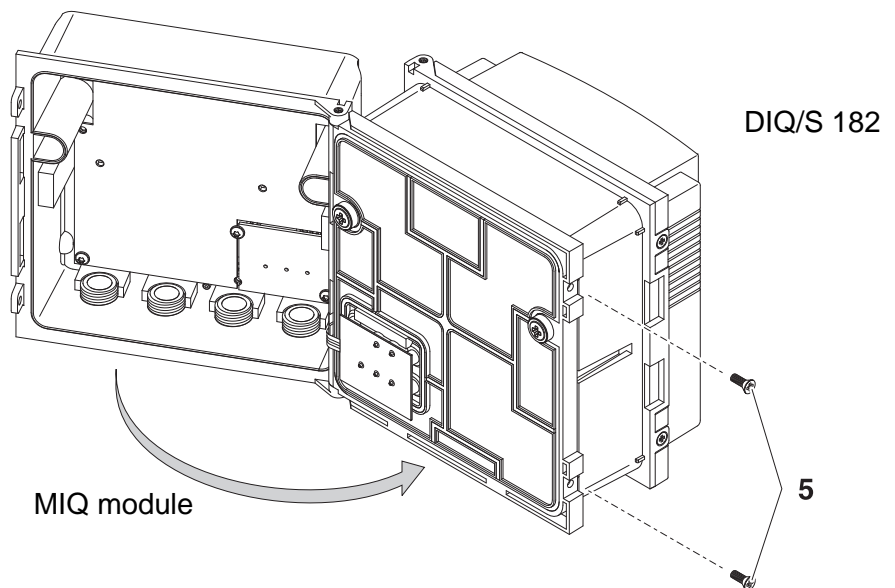

Fig. 3-10 Closing the enclosure (variant 2)
- 8 | Close the MIQ module and fix it with the two countersunk screws (pos. 5 in Fig. 3-10).